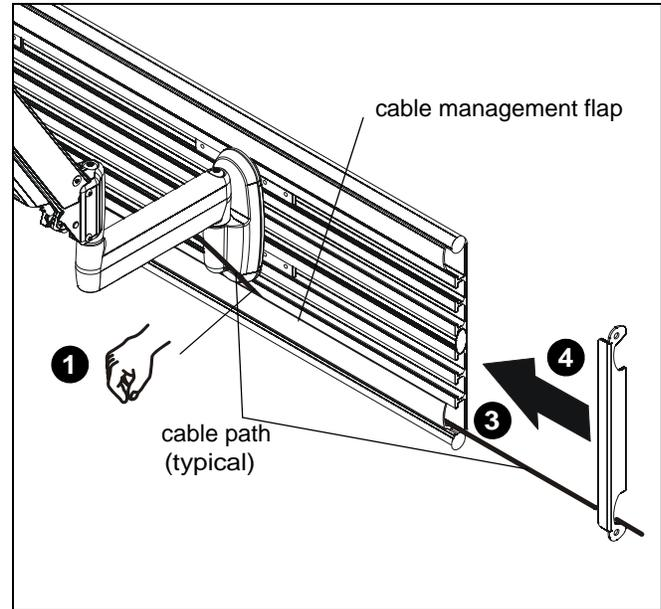

Figure 55
6. Tuck cable inside cable management flap. (See Figure 55)
8. Pull cable through cable management flap until cable outlet plug extends outside the wall track accessory. (See Figure 55)
9. Reinstall side cover making sure the cable runs through the cable hole. (See Figure 55)